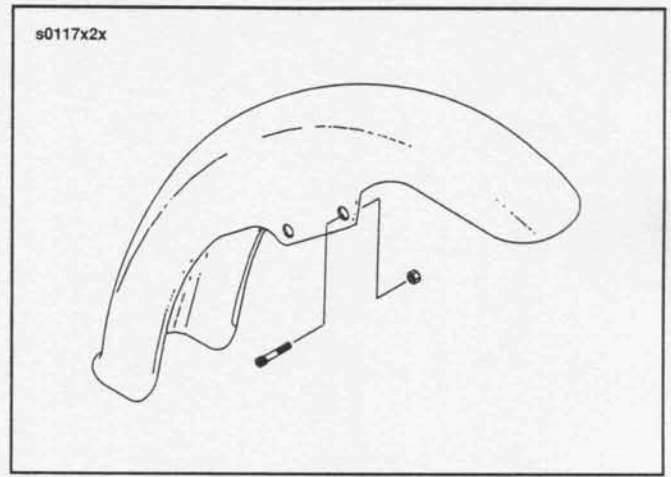

Figure 2-91. Front Fender – FLSTF
2. See Figure 2-91. Remove screws and flange nuts that hold fender in place and remove fender.